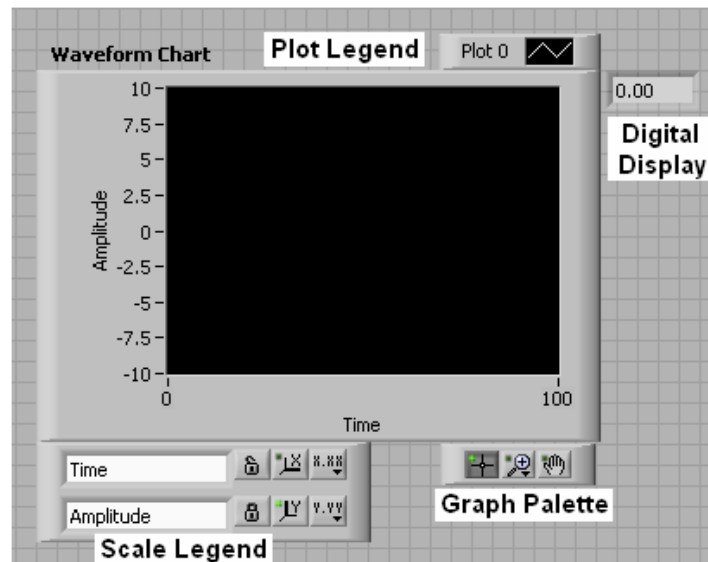

Figure 6.4: Waveform Chart Plotting Controls
- a. All of the controls labeled in **Figure 6.4** can be displayed for a Waveform Chart, if not already, by **Right-Clicking on the Graph** → **Visible** → **Select Component**